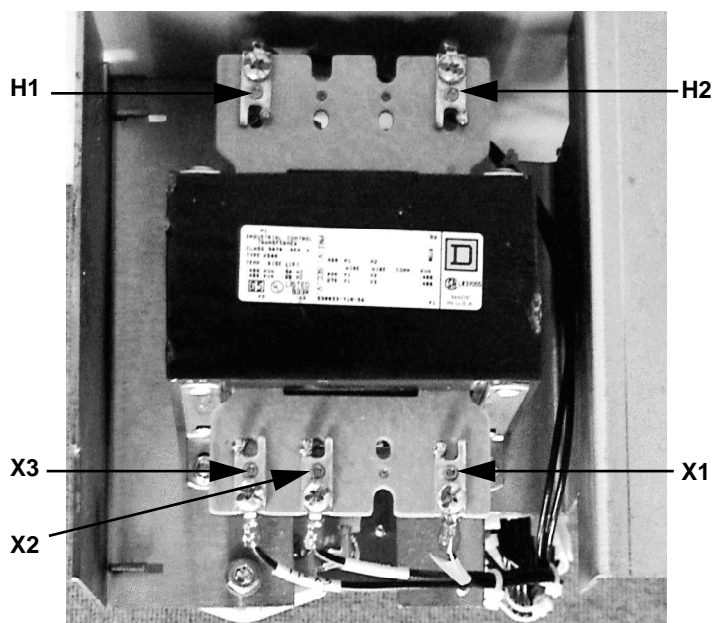

Figure 4.2.45: Control Power Transformer
14. Reattach the connections to the control power transformer (See Figure 4.2.45 on page 4.2.77). Tighten the terminal screws to 25 lb-in (2.8 N•m).